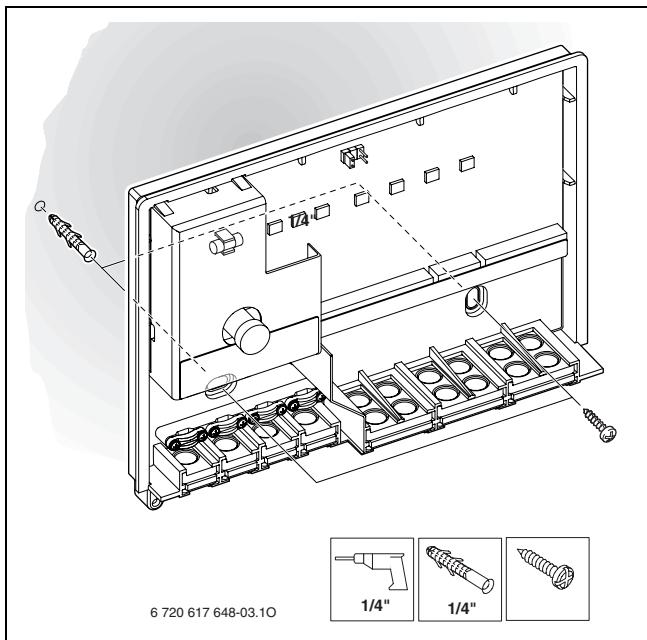

Fig. 9 Insert wall anchor
- ▶ Drill Ø 1/4" (6 mm) holes and insert wall anchors (→ fig. 9).